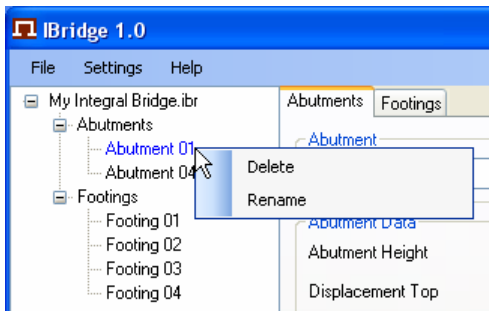

Fig. 6.1 Context menu
- Right mouse click on the particular abutment or footing displays context menu with items **Delete** and **Rename**, see Figure 6.1,